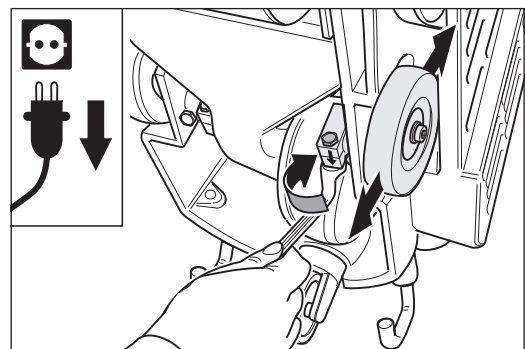

Fig. 76 Release the screw on the right-hand wheel clamp.
- 6 Release the clamping screw at the wheel clamp of the adjustable wheel (Fig. 76) and place the setting fixture against the machine housing again.